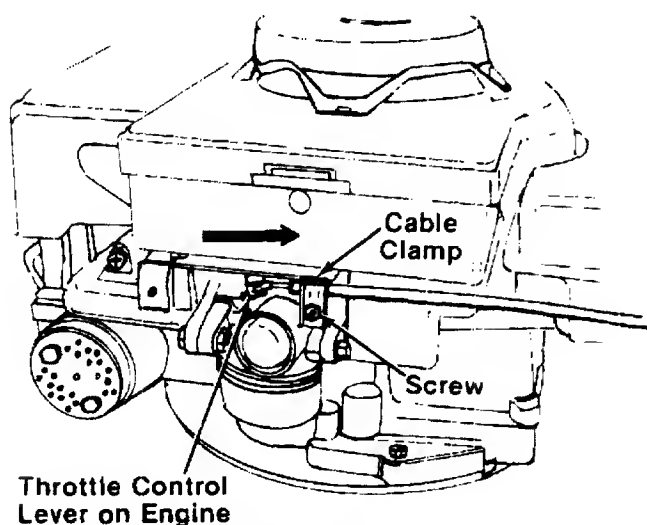

FIGURE 6.—Tecumseh Engine
11. Hook the "Z" end of the throttle control cable into the hole in the control lever on the engine. See figure 6.
12. Loosen (do not remove) the screw on the cable clamp shown in figure 6. Slip the control casing under the clamp. Do not tighten at this time (cable must move freely beneath the clamp).
13. Push the throttle control lever on the engine to the full open position (as far toward the rear of the mower as it will go) as shown in figure 6. Tighten the screw to secure the throttle control cable in this position.